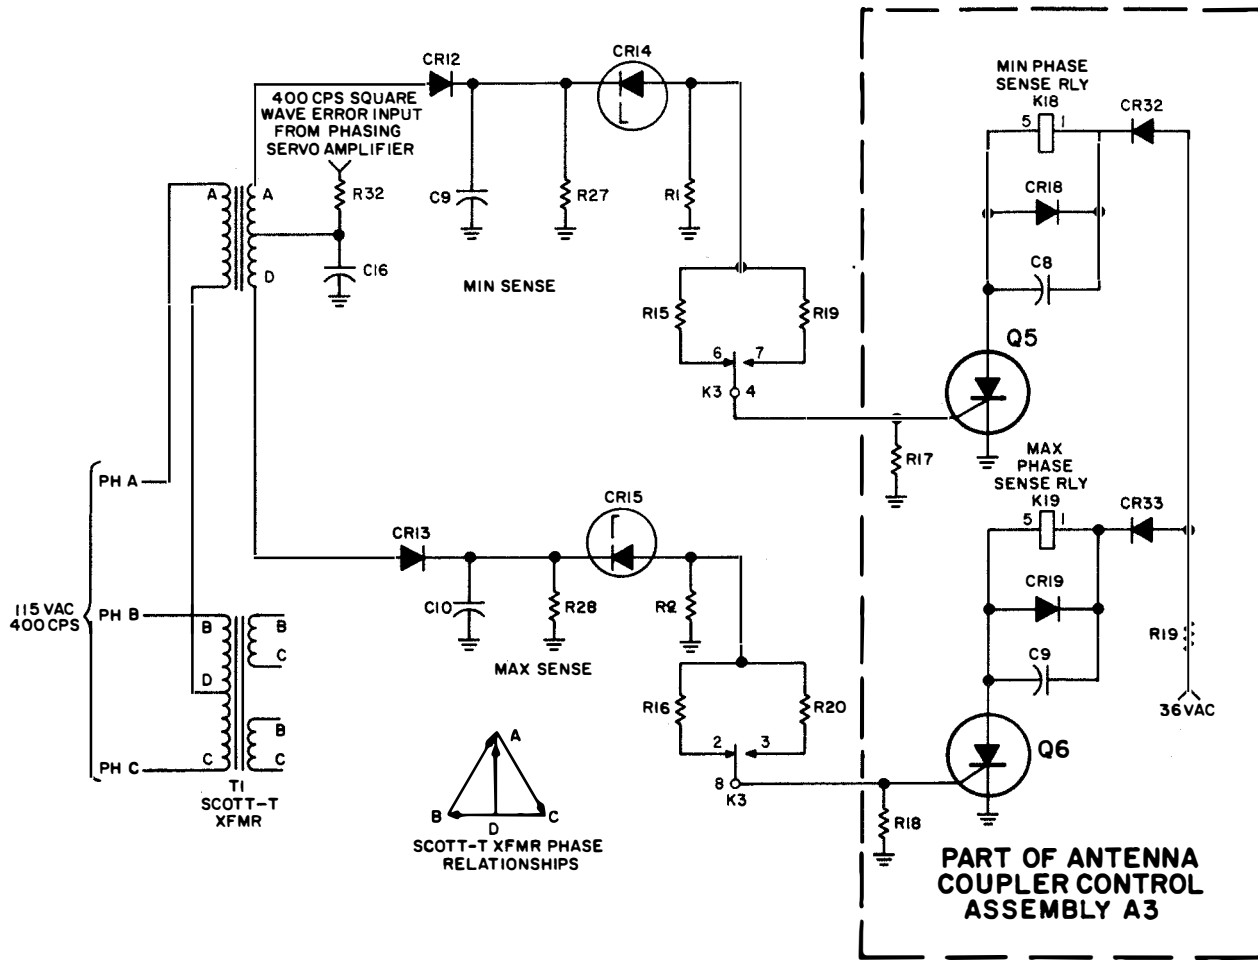

Figure 4-4. Phase Sensitive Circuit, Simplified Schematic Diagram
a. FUNCTIONAL DESCRIPTION. - (Refer to figure 4-4.) Antenna Coupler CU-1169/SRC-16 uses a phase sensitive circuit which determines the sense of the phasing error signal amplified by the phasing servo amplifier. The phase sensitive circuit provides signals which operate minimum and maximum phase sense relays K18 and K19.
(1) REFERENCE ILLUSTRATIONS. - Schematic diagram, figure 5-18 and simplified schematic diagram, figure 4-4.
(2) SPECIAL PROCEDURES. - No special procedures or test equipment are required, other than an AN/USM-116 Multimeter, to troubleshoot the phase sensitive circuit.